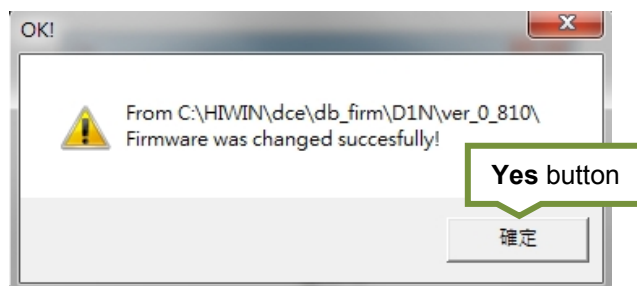

Figure13.1.5
- Step 4: After the firmware is updated, a window shown as figure 13.1.5 appears. Click on **Yes** button.